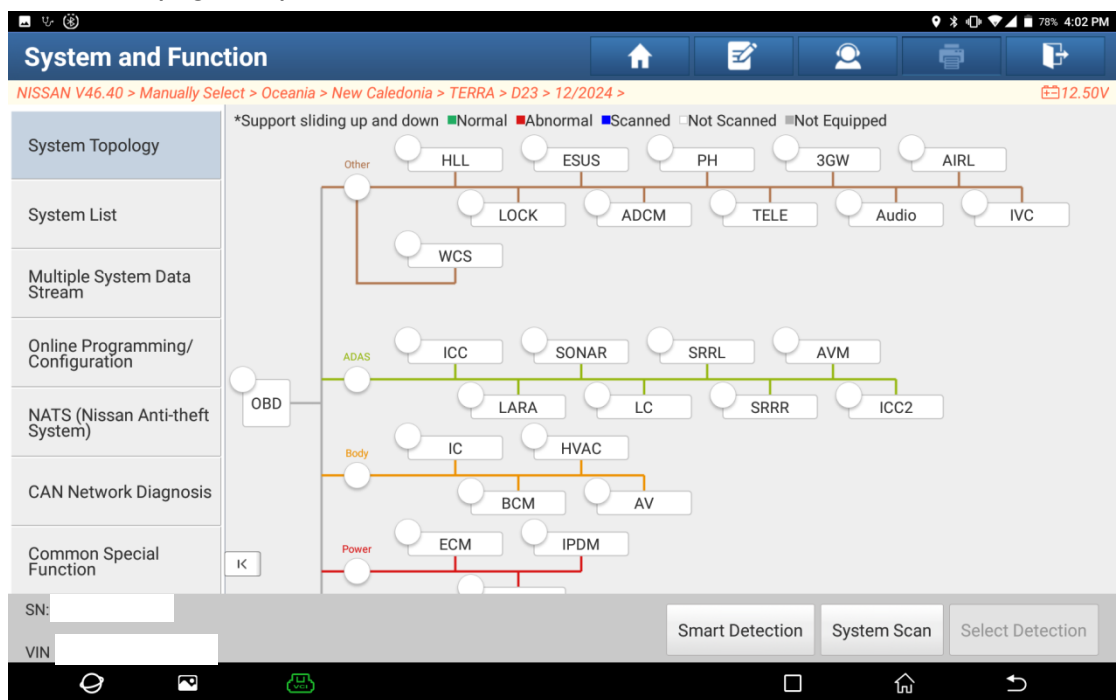

Figure 5
- Click [Manually Select], and then choose [Oceania] > [New Caledonia] > [TERRA] > [D23] > [12/2024] to enter the system interface for this vehicle model (Figure 5).